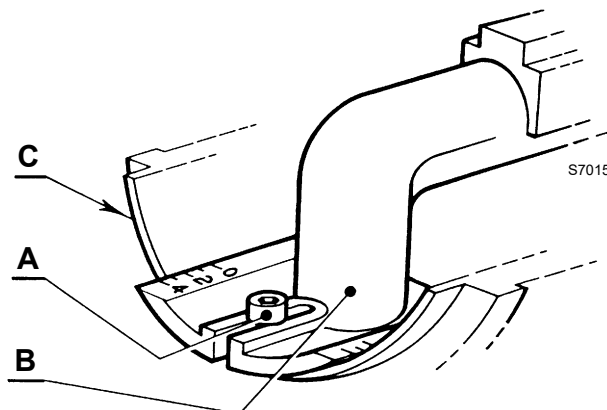

Fig. 11
- loosen the screw A (Fig. 11), move the elbow B so that the rear plate of the coupling (C) coincides with the set point;